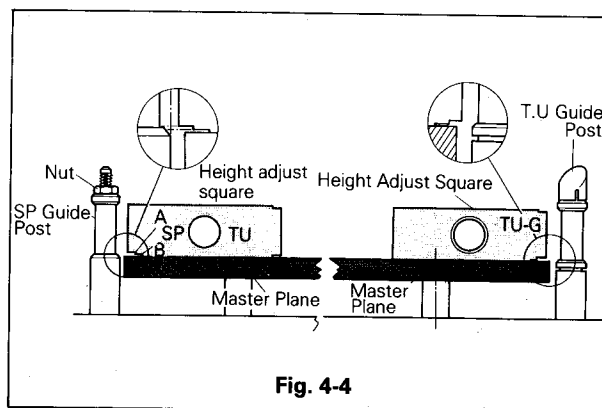

Fig. 4-4
- By using the height adjust square, make sure that the collar at the bottom of the guide post slides under part (A) of the square but not under part (B), as shown in Fig. 4-4.